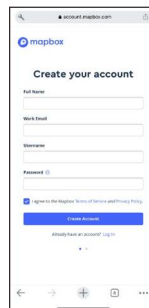

Figure 1
2.2 Enter account information. (See Figure 1)